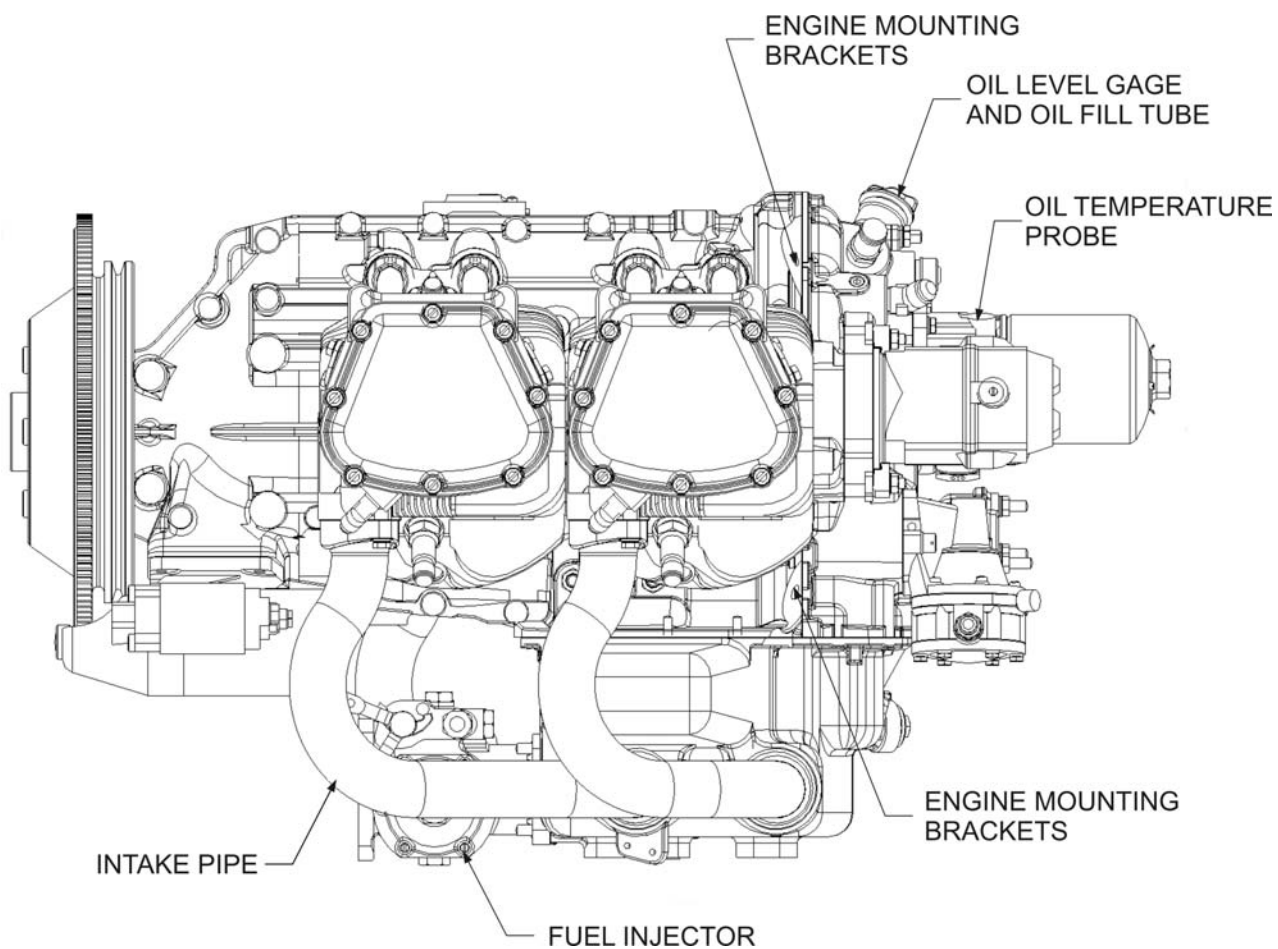

Figure 2-2. Installation, Left Side View
- b. Connect oil and fuel supply lines and any reporting devices, sensors, and senders per the airframe manufacturer's instructions. Refer to Figures 2-2 and 2-3 for connection locations.